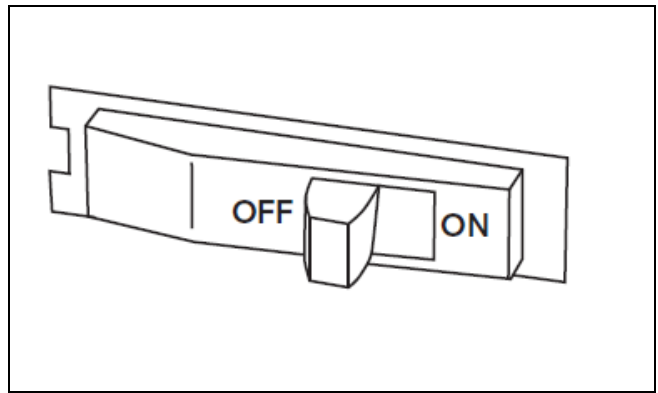

Figure 59
1. Ensure the breaker is switched off. See Figure 59.